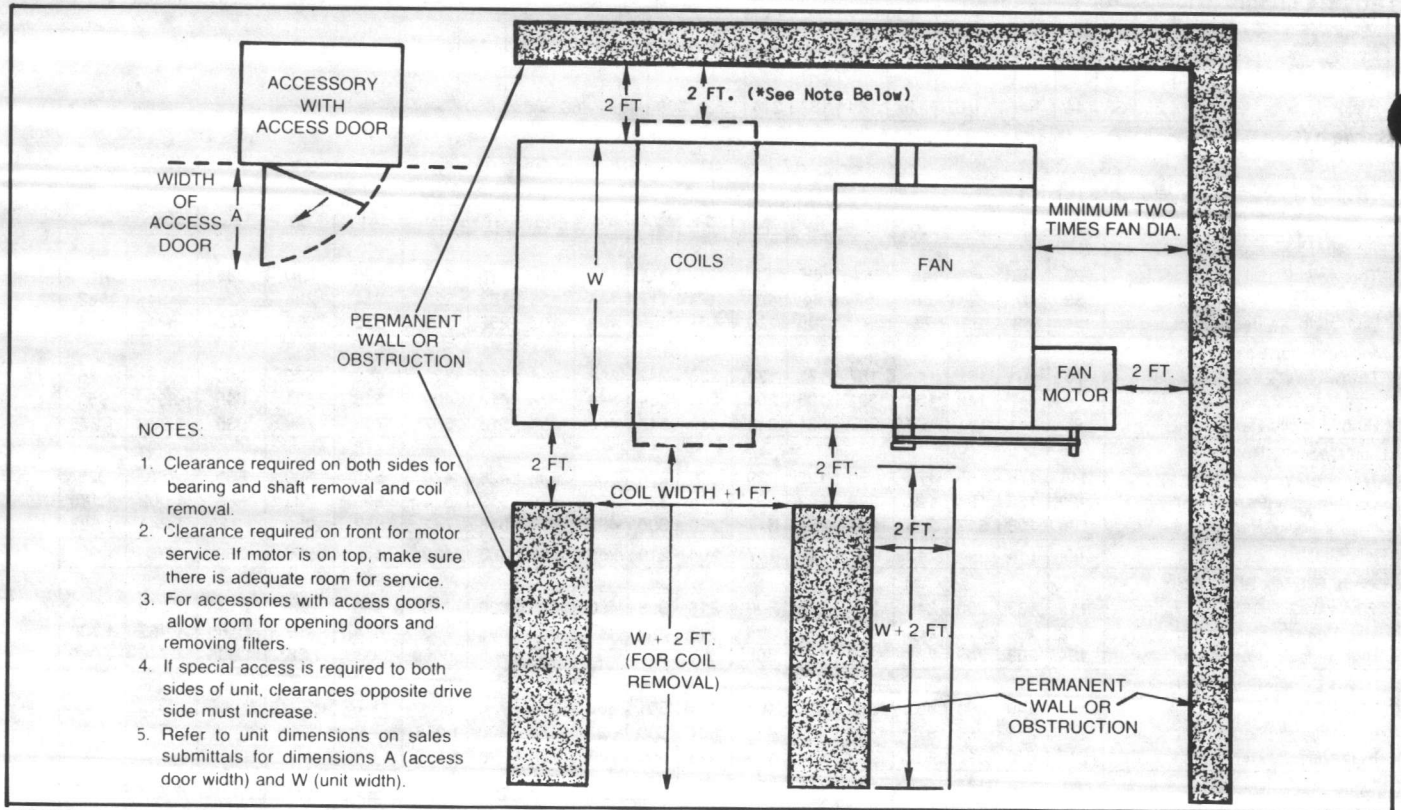

FIGURE 2 - Recommended Clearances
2. Allow sufficient space for the recommended clearances, access panel removal, and maintenance access. Refer to Figure 2. Zero clearance to combustible materials is approved for units with or without steam or hot water heating coils.